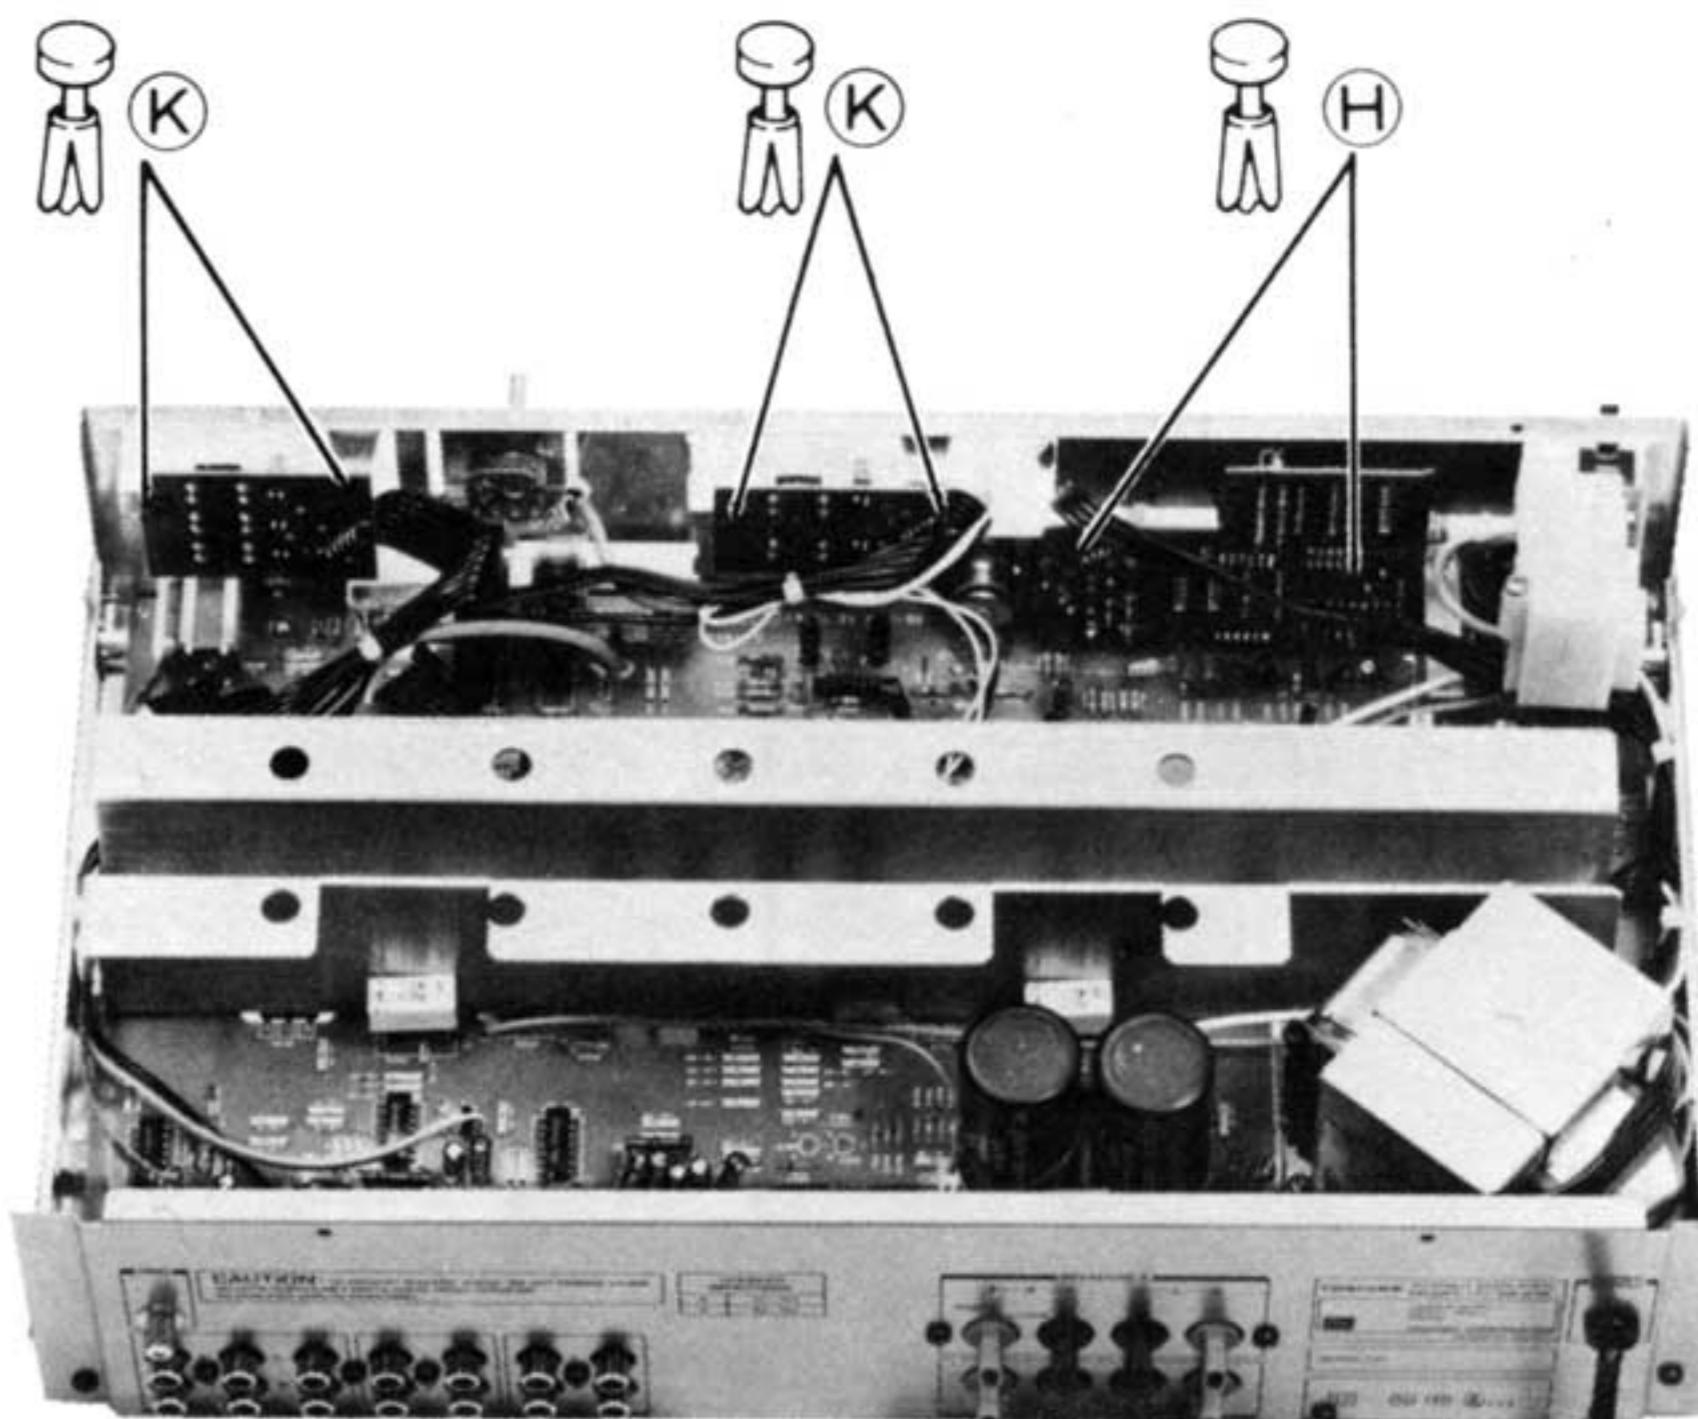

Figure 9
5. Remove two plastic rivets **(H)** ($3\phi \times 6.5\text{mm}$) holding the LEVEL Meter P.C. Board. See Figure 9.
- 2 Remove four plastic rivets **(K)** ($3\phi \times 4.5\text{mm}$) installing each P.C. Board, then each P.C. Board can be removed from the front chassis. See Figure 9.